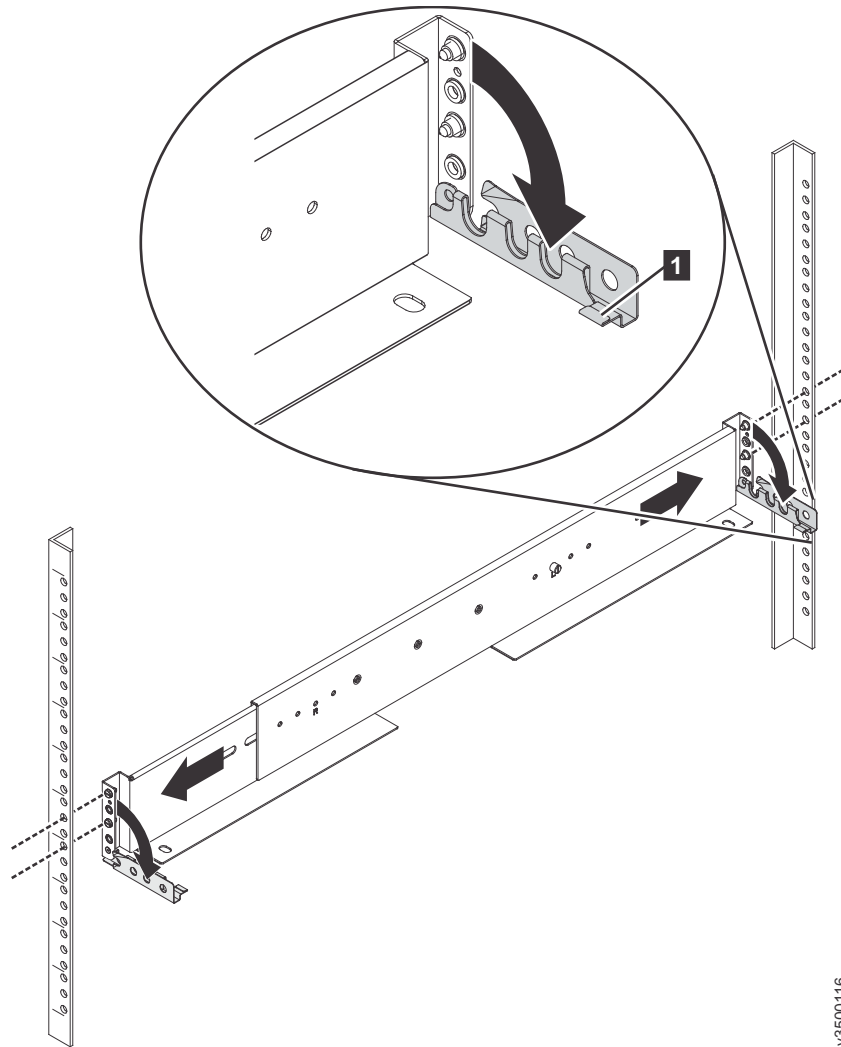

Figure 47. Opening the hinge brackets
5. At each end of the rail, grasp the tab **1** and pull *firmly* to open the hinge bracket (see Figure 47).